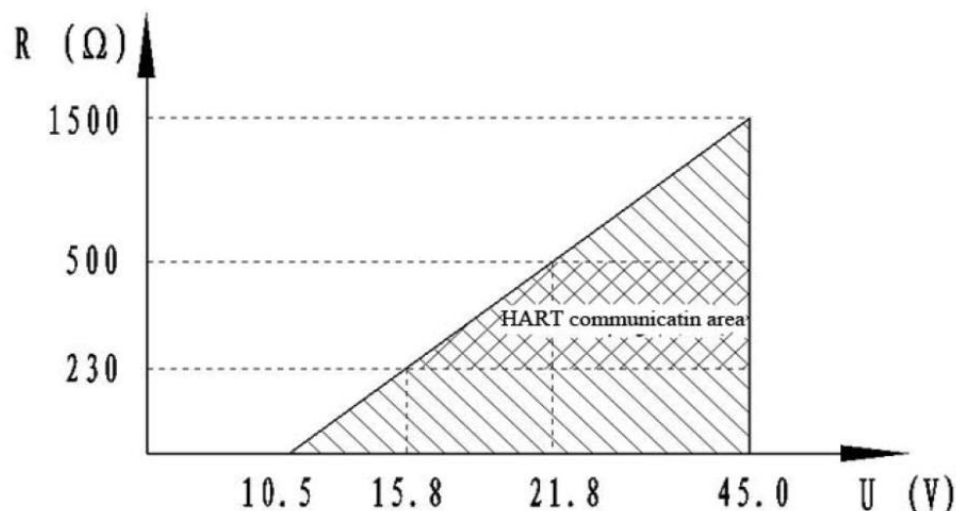

Fig.1 - Graph of dependence between the load resistor resistance and transmitter supply voltage
1.2.15 The limits of the permissible load resistance (resistance of resistor and communication lines) depends on the stated transmitter supply voltage and should not go beyond the boundaries of the working area shown in Figure 1 in the range from R_{min} to R_{max} .